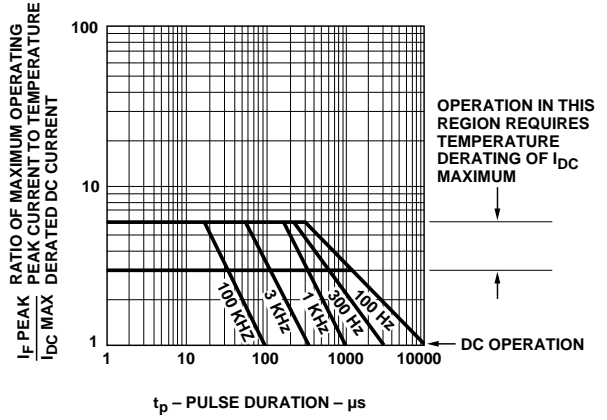

Figure 10. Maximum Tolerable Peak Current vs. Pulse Duration - Yellow.
7. See Figure 10 to establish pulsed conditions.